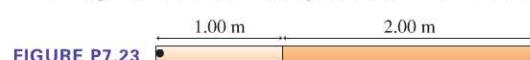

FIGURE P7.23
23. Two thin beams are joined end-to-end as shown in Figure P7.23 to make a single object. The left beam is 10.0 kg and 1.00 m long and the right one is 40.0 kg and 2.00 m long.